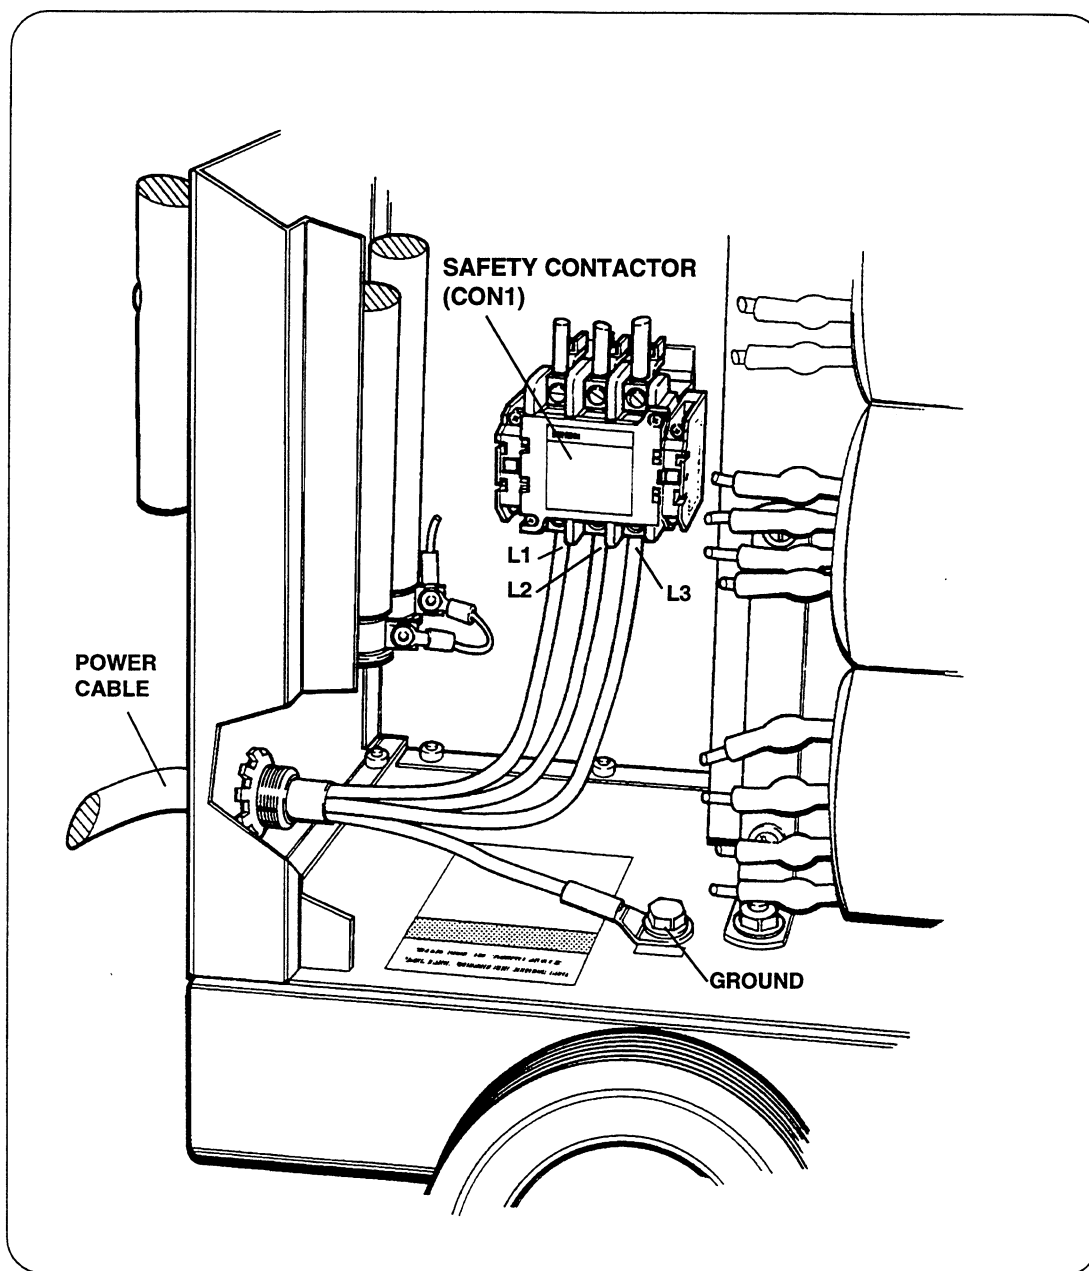

Figure 5-1 Primary Power Measurement Location - MAX100
3. Inspect interior of unit for discoloration on pc boards, or other apparent damage. If a component or module is obviously defective upon visual inspection, remove and replace it before doing any testing. Refer to the **Parts List** section (6) to identify parts and part numbers.
5. Measure the voltage at **CON1** between **L1**, **L2** and **L3**. See Figure 5-1 for location of CON1 . The voltage between any two of the three points at CON1 should be equal to your supply voltage (208, 220, 240, 380, 415, 480, or 600VAC). If there is a problem at this point, disconnect main power and check connections, power cable, and fuses at line disconnect switch. Repair and/or replace defective component(s) if necessary.